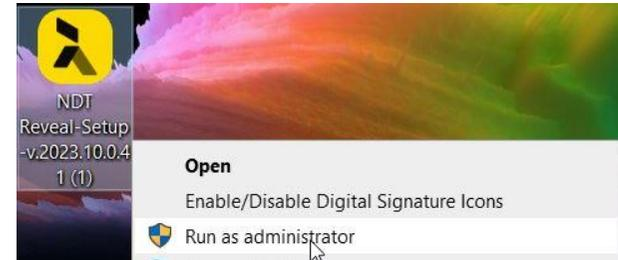

Fig. 1 NDT Reveal Install step 1
1. Select the **NDT Reveal** installer file being downloaded from *myWorld*, and right click on the mouse to “Run as Administrator” (Fig. 1),